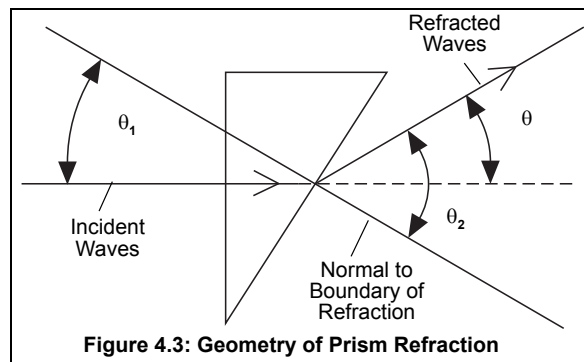

Figure 4.3: Geometry of Prism Refraction
4. Using the diagram shown in Figure 4.3, determine θ_1 and use your value of θ to determine θ_2 . (You will need to use a protractor to measure the Prism angles.)
1. In the diagram of Figure 4.3, the assumption is made that the wave is unrefracted when it strikes the first side of the prism (at an angle of incidence of 0°). Is this a valid assumption?